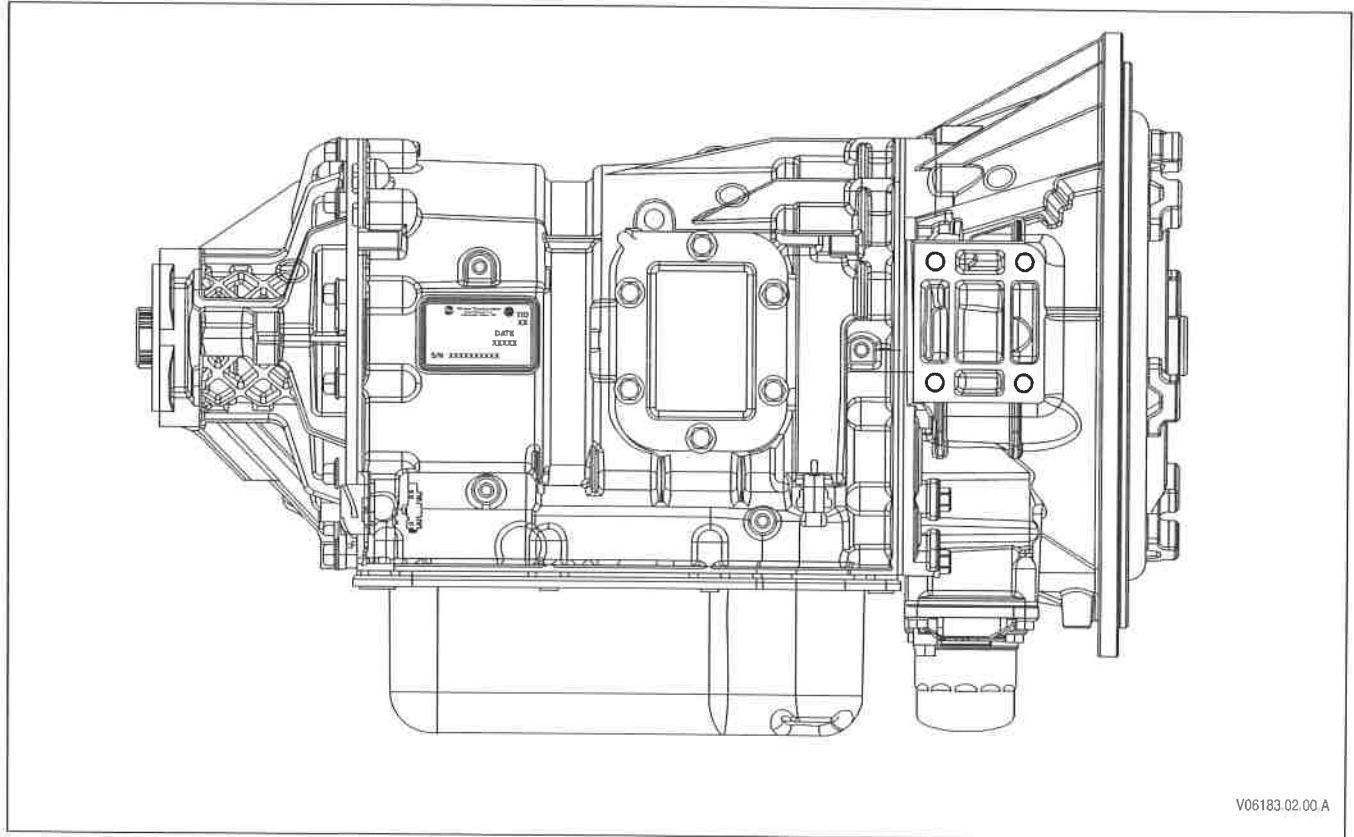

Figure 1-3. 1000 and 2000 Product Families Transmission Nameplate Location
a. **Transmission Nameplate.** The nameplate (1) (Figure 1-3) is located on the right side of the transmission. Nameplates are imprinted (Figure 1-4) with the transmission model, serial number, transmission identification number, engineering feature configuration number, and date of manufacture. Use all of these numbers when ordering replacement parts or requesting service information.